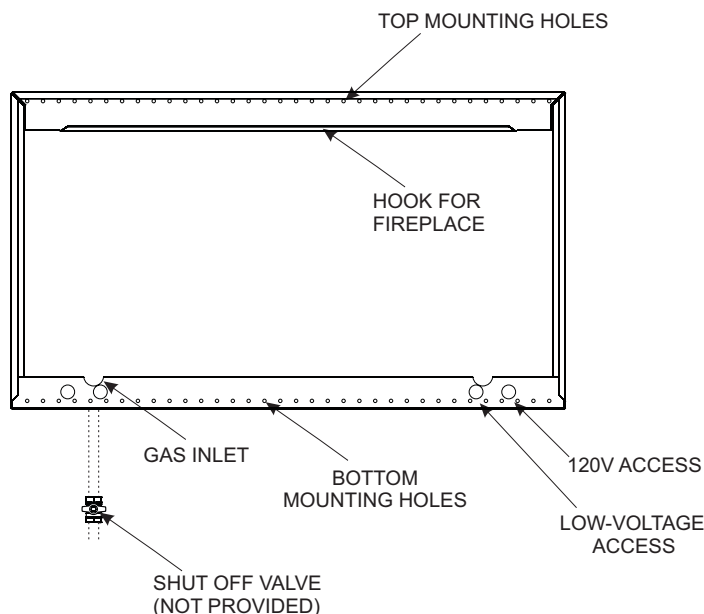

Figure 4
5. To ensure the proper location of the gas line and electrical line, install the decorative wrap. **See Figure 4.**